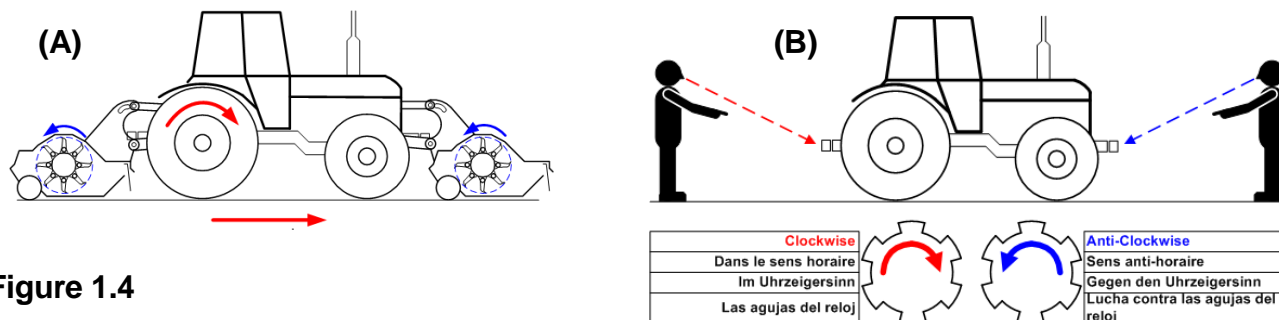

Figure 1.4
Under normal cutting conditions flail rotation in the flail mower will be the reverse of the tractor drive wheel rotation. This will be defined as '**Reverse rotation**' (RR). See Figure 1.4(A).
This convention also extends to the definition of PTO drive rotation from the prime mover, see Figure 1.4 (B), if the machine is PTO driven.